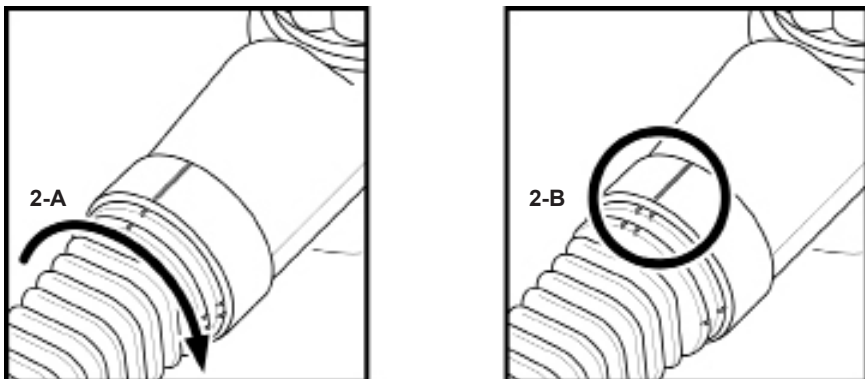

FIGURE 2
2. Rotate Jet Nozzle or Wide Nozzle in a clockwise direction as indicated (FIGURE 2-A). Twist until you feel it “lock” into place and it will move no further. Note that single guide line above Steam Aperture aligns between dual guide lines on Jet Nozzle / Wide Nozzle (FIGURE 2-B).